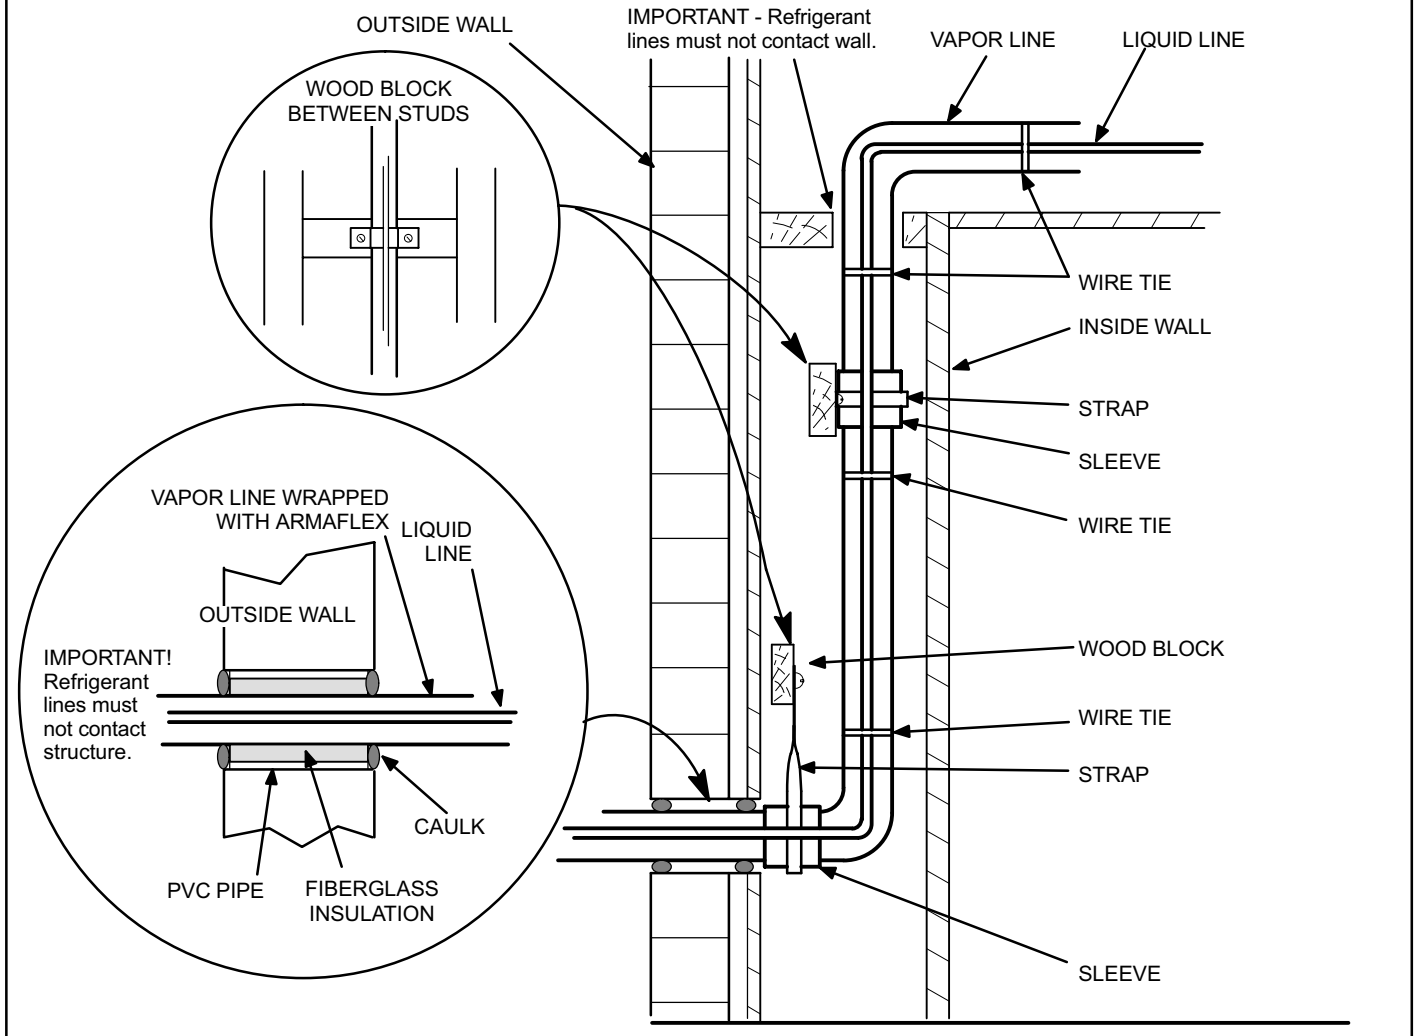
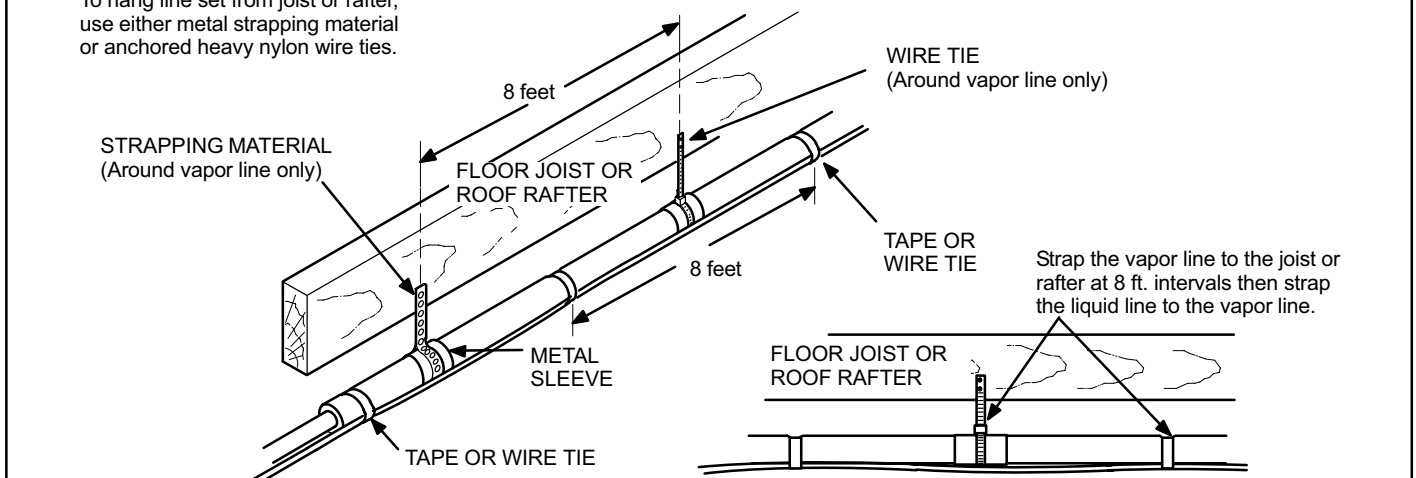

Figure 11
Figure 12
- 2. Line Set Isolation**—The following illustrations demonstrate procedures which ensure proper refrigerant line set isolation. Figure 10 shows how to make a transition from horizontal to vertical. Figure 11 shows how to install line sets on vertical runs. Figure 12 shows how to install line sets on horizontal runs.